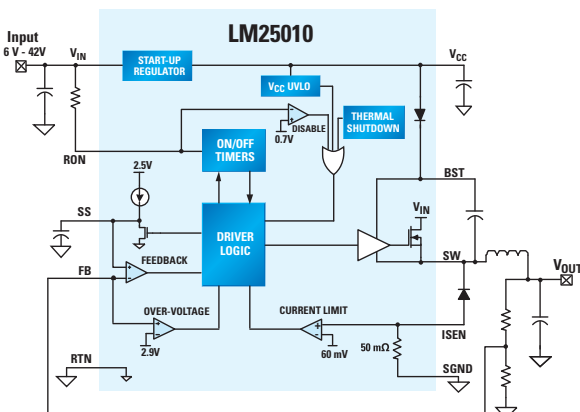

Figure 4. LM25010 COT Buck Regulator
The block diagram in Figure 4 illustrates the LM25010, a new member of a generation of COT buck regulators that solves these problems. The one-shot which controls the on-time is programmed by resistor  $R_{ON}$  which is connected between the unregulated input voltage and the controller. The period of the one-shot ( $T_{ON}$ ) thus varies inversely with the input voltage. Using the simplified equation for the duty cycle (D) of a buck regulator, with  $F_s$  representing switching frequency:
The LM25010 illustrated in *Figure 4* solves the current limit dilemma with a simple yet effective method. The free-wheeling diode current is routed through a sense resistor in the IC. The current in the diode is sensed by a resistor and monitored by a comparator. If the current flowing through the free-wheeling diode exceeds the current-limit threshold, the current-limit comparator will disable the buck switch until the diode current falls to an acceptable level. The off-time is automatically increased to the